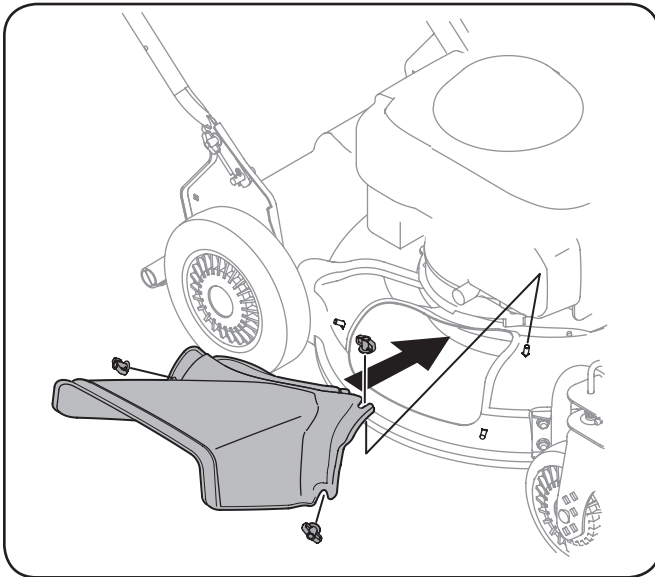

Figure 3-7
- Attach side discharge chute to unit and secure with the three wing nuts. See Fig. 3-7.